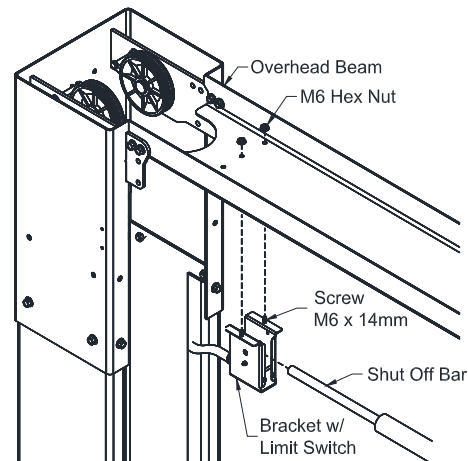

Fig. 7a – Overhead Limit Switch Power Side
- 21) Install Overhead Limit Switch to the Overhead Beam using the rear set of holes on the Power Side of the lift. **Fig. 7a**.